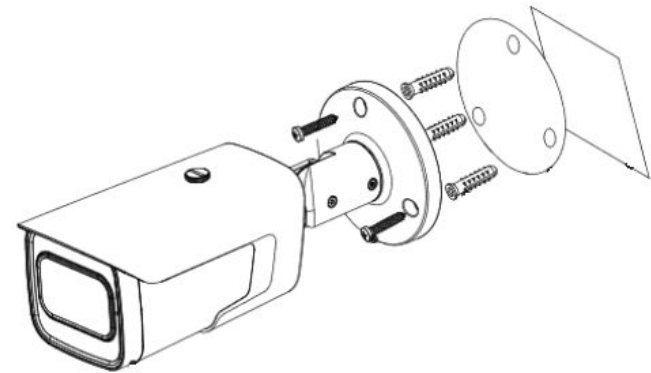

Figure 2-2
Step 3 Align the screw holes of the camera base with the mounting hole sites then install the mounting screws into the expansion bolts. See Figure 2-2.